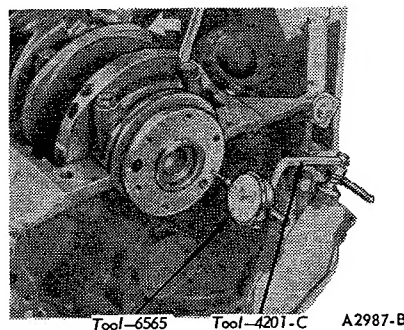

FIG. 6 Checking Crankshaft End Play
2. Install a dial indicator so that the contact point rests against the crankshaft flange and the indicator axis is parallel to the crankshaft axis (Figure 6).